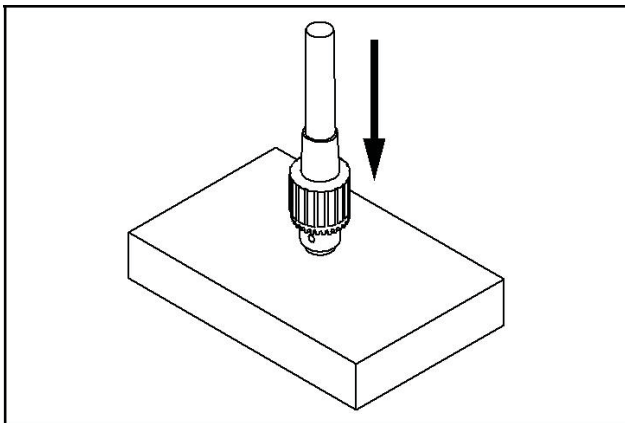

Figure 5. Tapping drill chuck/arbor on block of wood.
4. Hold assembly by the arbor and tap chuck onto a block of wood with medium force, as illustrated in **Figure 5**.